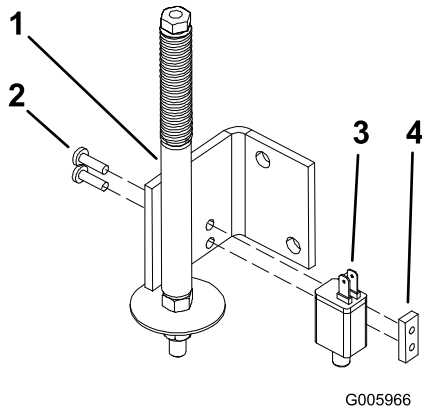

Figure 3
4. Remove the switch from Z100/400 actuator and switch assembly. Remove the two screws and tapped plate to separate the switch from the assembly (Figure 3).